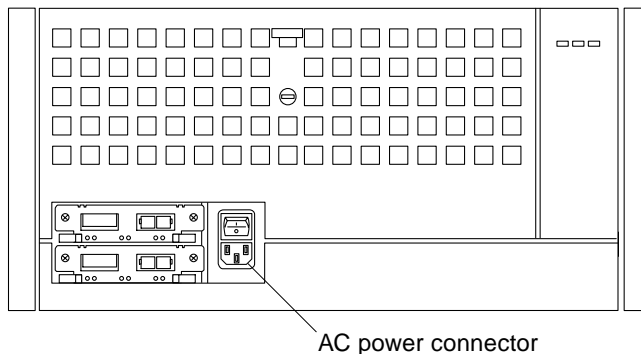

FIGURE 2-1 AC Power Connector
2. **Connect the power cord to the AC connector on the rear panel of the disk array (FIGURE 2-1).**